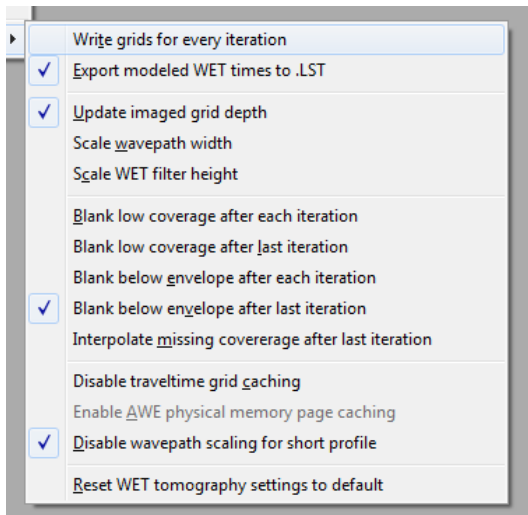

Fig. 14 : WET Tomo|WET tomography Settings
- disable scaling of WET *wavepath width & filter height*, for maximum detail at depth (Fig. 14)